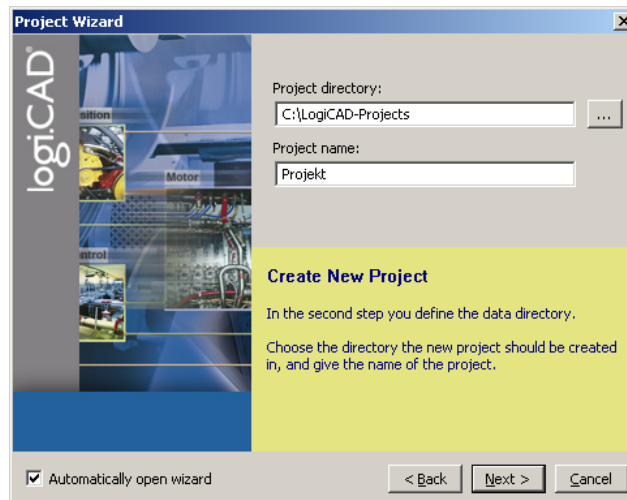

Figure 24: Project name and path
5. Specify the name of the project and the path where to store the project files, see Figure 24.